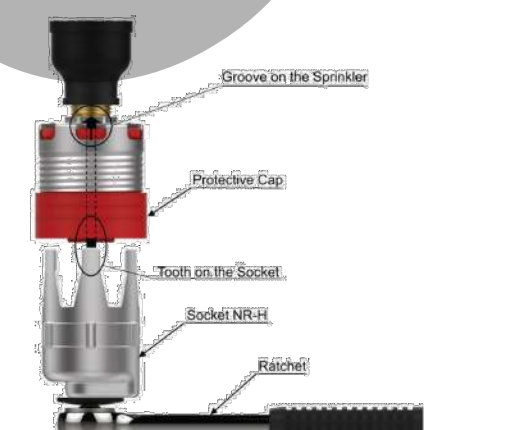

Figure 4: Ratchet & Socket
**Step 2:** With pipe thread sealant applied to the threads, hand tighten the sprinkler into the sprinkler fitting. Then tighten it with the Socket NR-H or Ratchet (3/8" drive) & Socket NR-H Combination (Ref. Figure 4). The teeth of the Socket must fit perfectly with the grooves on the Sprinkler for proper installation (Ref. Figure 4).